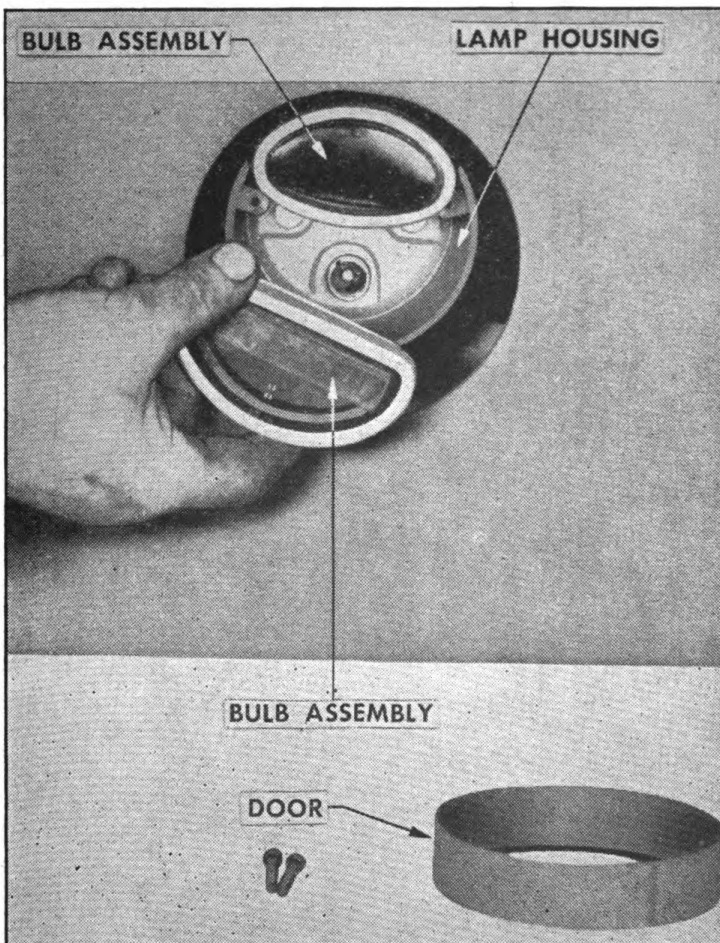

FIGURE 53. REPLACING BULB UNIT.
4. REPLACING BULB UNIT (Fig. 53).—a. Remove the two screws from lamp door.